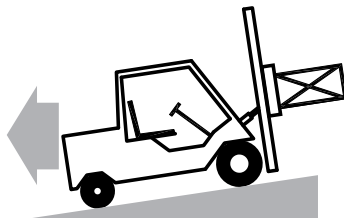

Figure 4
- Always back down ramps or inclines. Driving forward down a ramp or incline with a clamped load will lessen the stability of the truck. (Figure 4)